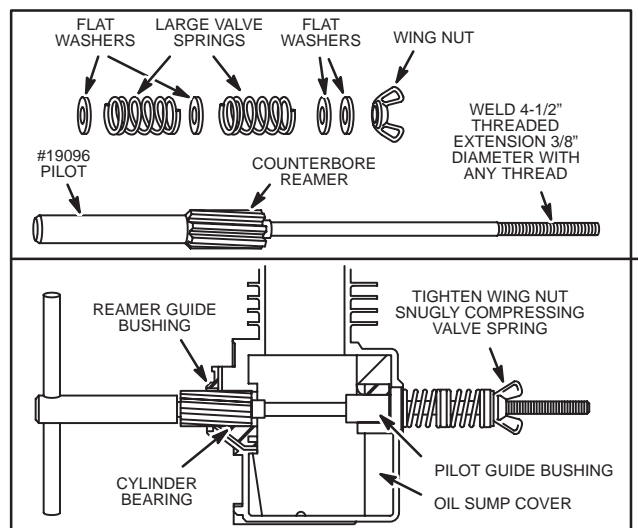

Fig. 920 – MODIFIED PILOT
**NOTE:** When Pilot, Tool #19066, has been modified by adding a 4" long, 1/2" threaded extension, place pilot guide bushing flange on outside of crankcase, Fig. 920.